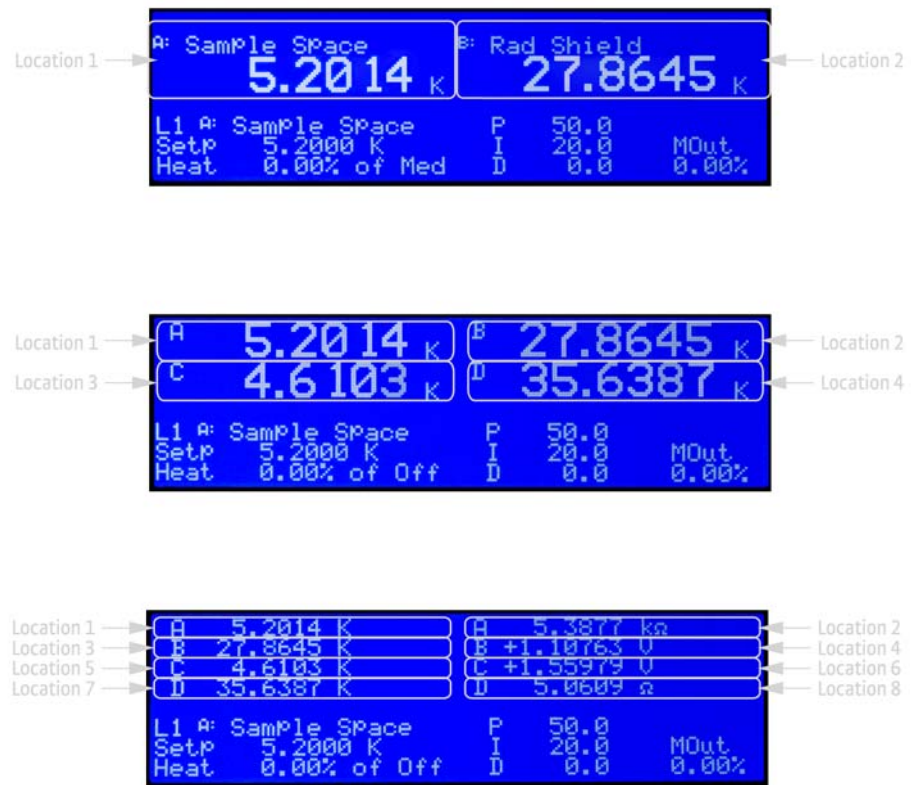

FIGURE 4-4 Top to bottom: Model 336 screen images showing 2, 4 and 8 display locations
- **Locations:** depending on the Number of Displays parameter, there can be anywhere from 2 to 8 display locations for displaying sensor readings. The placement of a given display location on the front panel LCD depends on the Number of Displays setting (FIGURE 4-4).